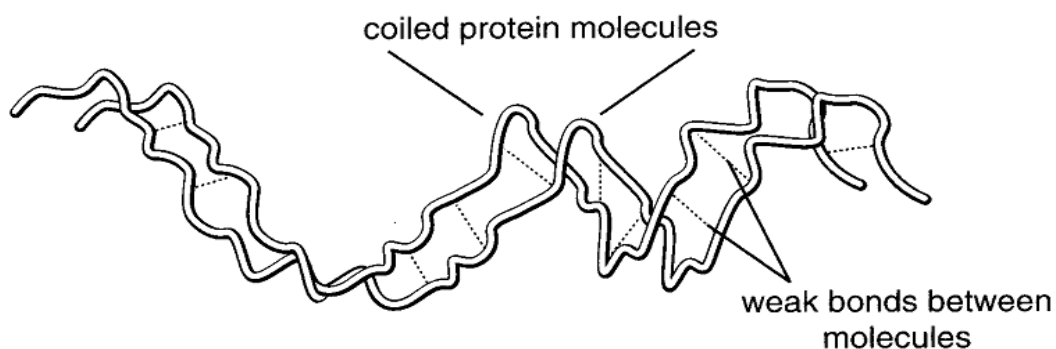

**Fig. 11.2**
- (i) Hairs are made of bundles of strong protein fibres, embedded in an amorphous protein matrix (Fig. 11.2). Strong sulphur bonds glue the bundles of fibres to the amorphous matrix.